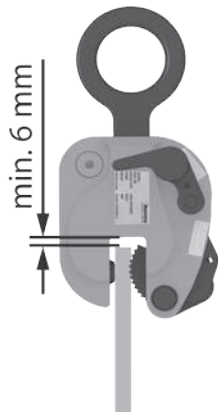

Fig. 19: Distance clamp / sheet
- Ensure, if possible a gap of approximately 6 mm between workpiece and clamp (Fig. 19). Observing the gap is recommended, and it increases the lifetime of the clamp.